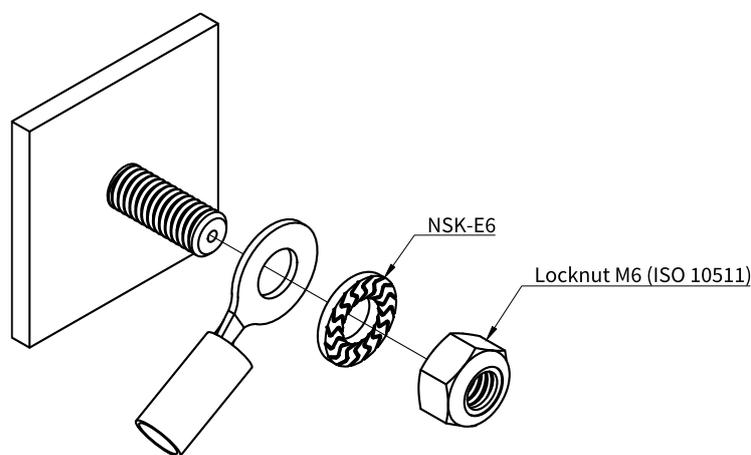

Figure 4 **Earth Cable Mounting on Earth Stud**
- Mount the earth cable as shown in Figure 4.